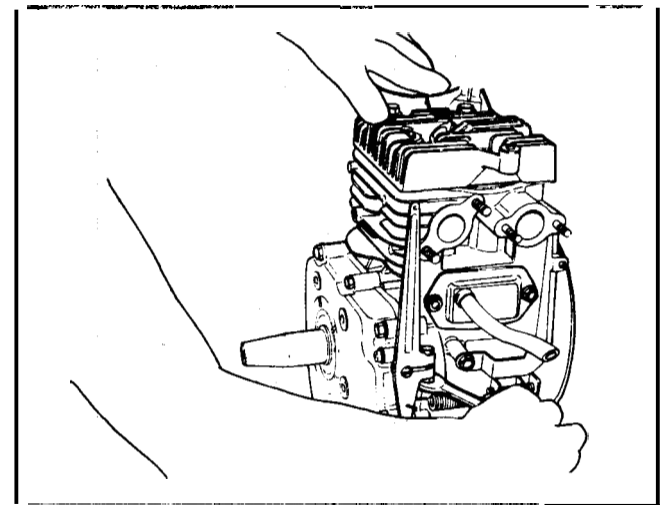

Figure 72
30. Remove the governor lever and the governor spring bracket. See Figure 72.